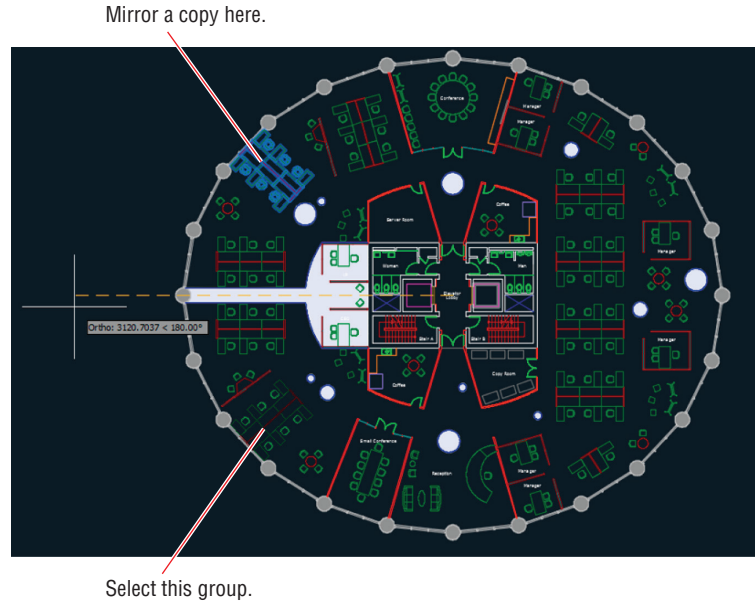

FIGURE 4.27 Mirroring a furniture grouping
5. Press Enter to repeat the MIRROR command. Double-click the mouse wheel to zoom to the drawing extents. Select the furniture system indicated in Figure 4.27 and press Enter. For the first point of the mirror line, type 0,0 and press Enter.